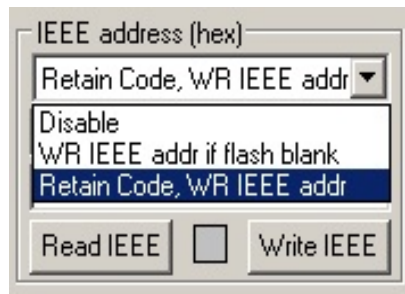

Figure 8.4
2. **Manual -> Write new IEEE address if flash is blank** - used only when the **“Write IEEE addr”** button is pressed in the **Main Dialogue** screen (Figure 4.1 and Figure 8.4). The software first verifies if all eight bytes are not programmed (all 0xFF). If they are not then the action is terminated. Otherwise, the new IEEE address is downloaded and verified. The verified IEEE address is then displayed in the grey line - on the left side of the edited line (figure 8.2.1-2).